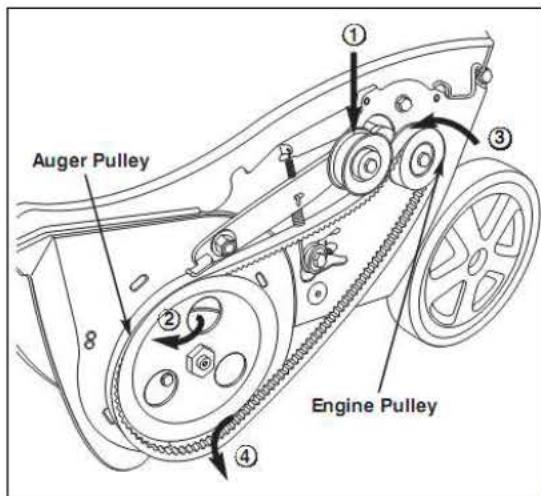

Figure 20
2. Push down on the idler puller to release the old belt from under the belt keeper. Remove the old belt by grasping it from the bottom of the auger pulley and pulling outward. See figure 20.